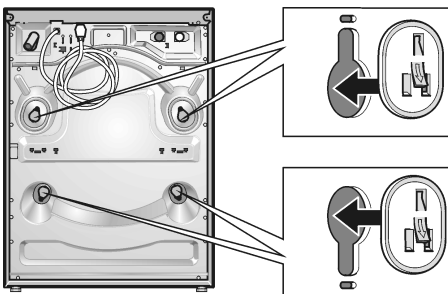

Figure 15
- Insert the covers until they snap in completely (see Figure 15).